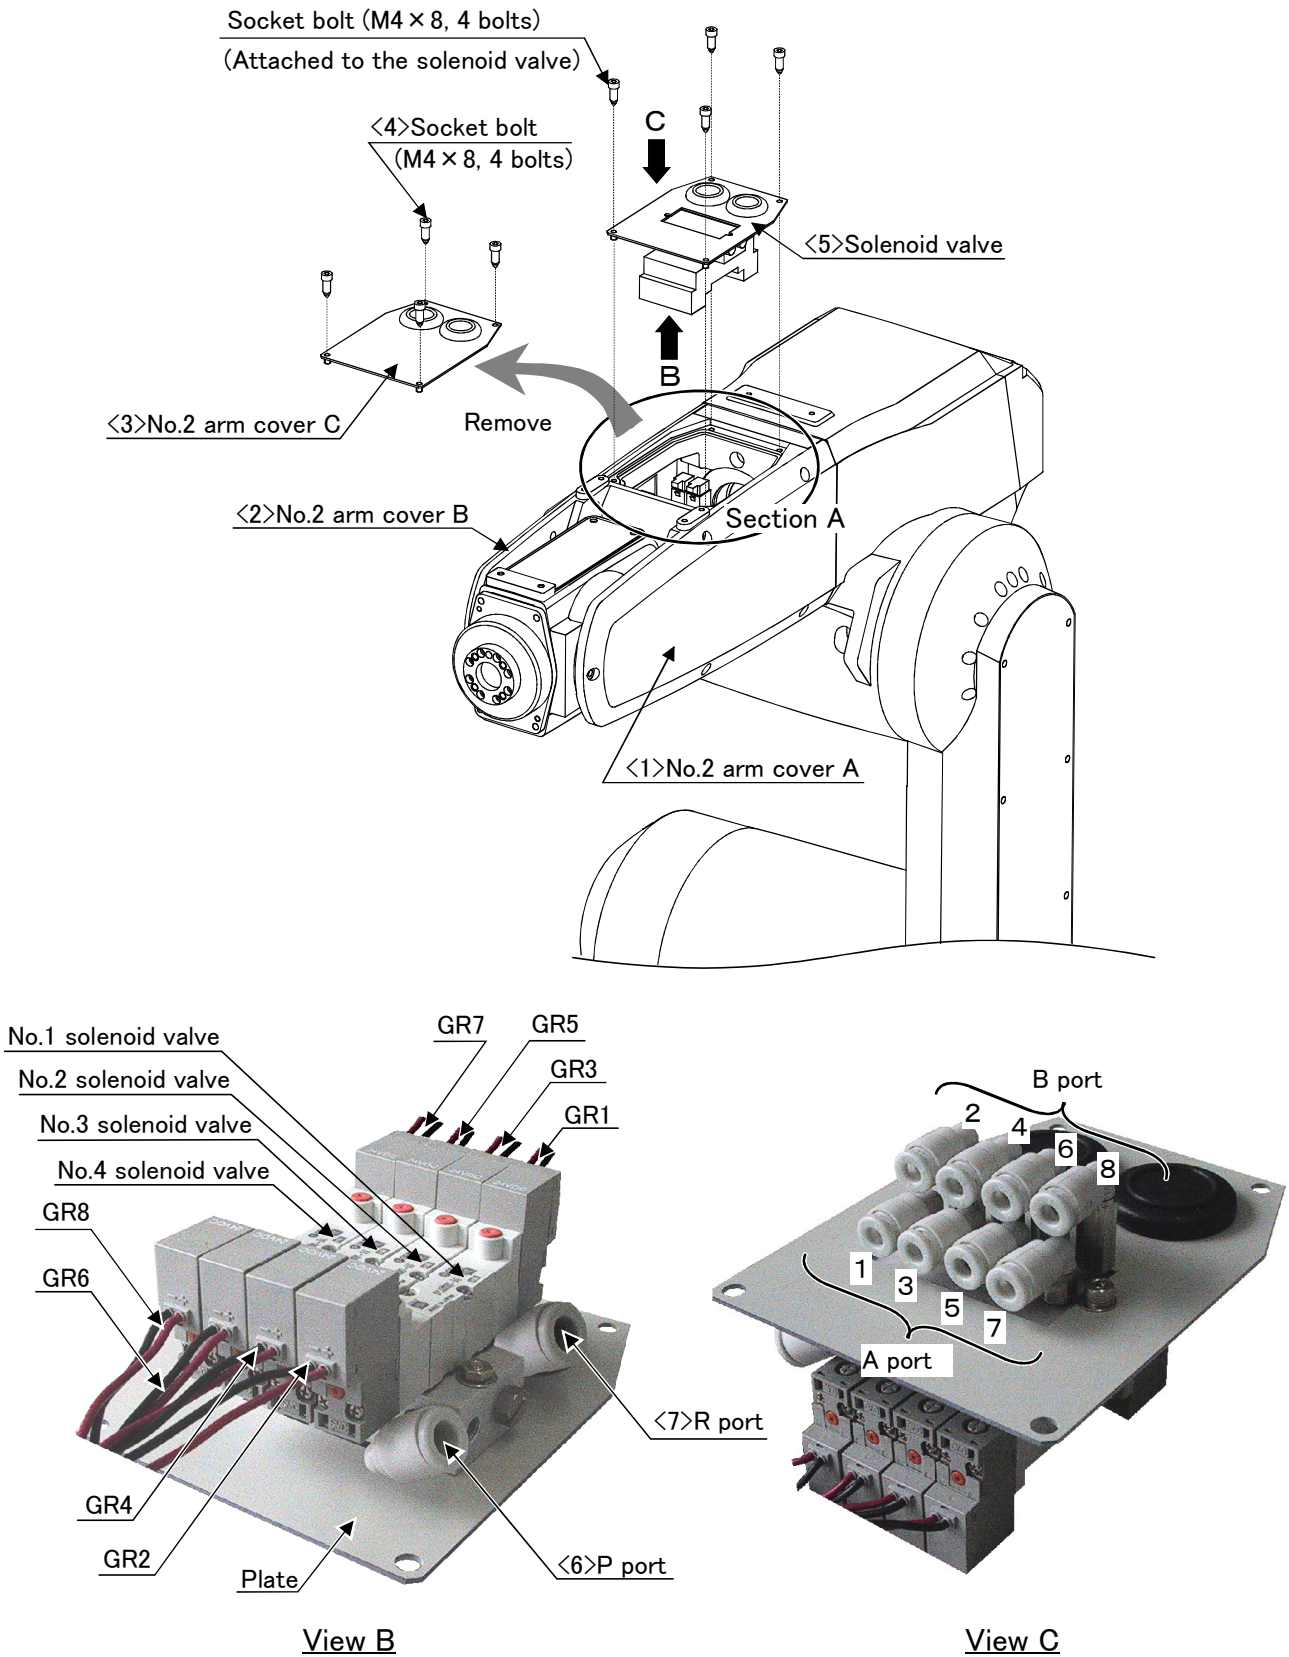
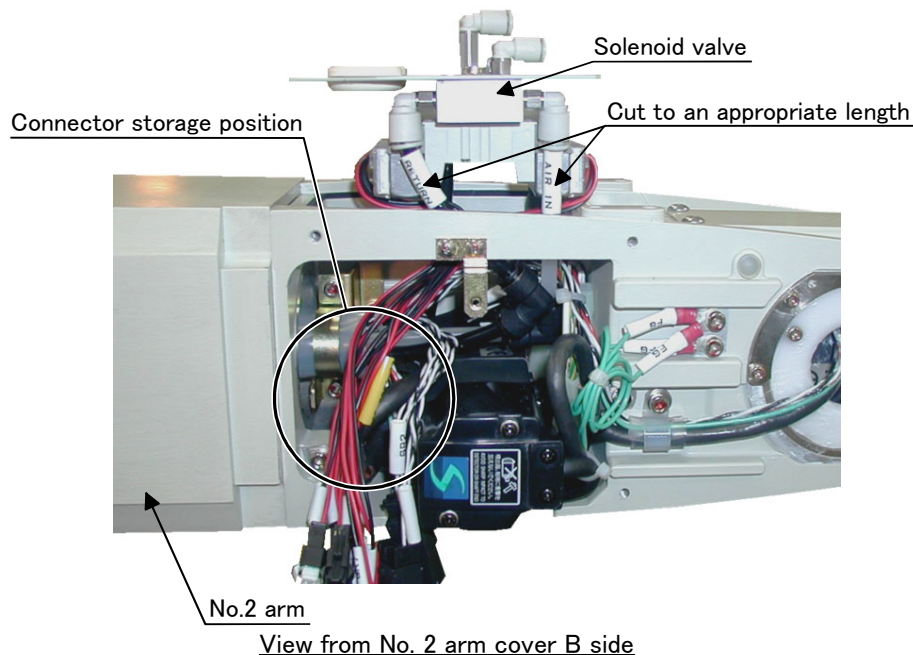
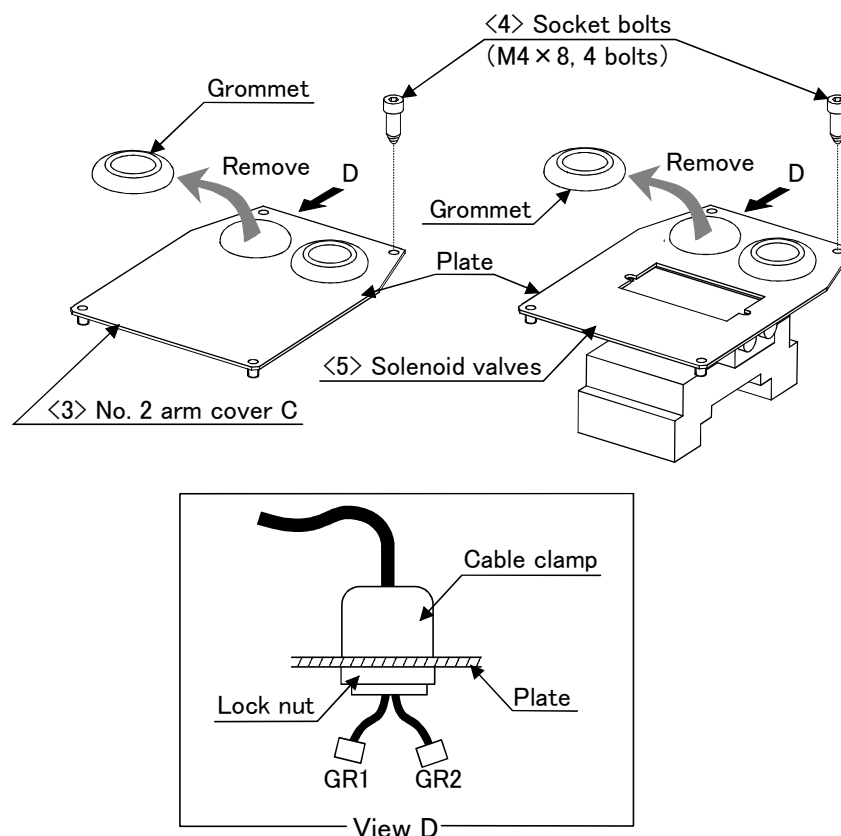

Fig.3-1 : Solenoid valve installation procedures
Fig.3-2 : Solenoid valve installation diagram details 1
Fig.3-5 : Installing the hand output cable
Fig. 3-1 and Fig. 3-2 shows the solenoid valve installation procedures and the solenoid valve connector connection procedures. The installation procedures are as follow. This work must be carried out with the controller power turned OFF.
- 3) If you are not using the spare line (ADD: stored in a coil) in section A shown in Fig. 3-1, remove it. The spare line is connected to a connector inside section A.
- 7) Connect the connectors of GR1 to GR2 stored in section A to the plugs of GR1 to GR2 coming out of the solenoid valves. Store the connectors near the location marked with  $\bigcirc$  shown in Fig. 3-2. Fig. 3-2 shows a view when stored.
The procedure for installing the hand input cable is as follows. Conduct work by referring to "Fig. 3-1 Solenoid valve installation procedures" on page 31 and "Fig. 3-4Installing the hand input cable" on page 34 below. This work must be carried out with the controller power turned OFF.
- 7) Connect the connectors of "HC1" and "HC2" stored in section A shown in Fig. 3-1 to "HC1" and "HC2" of the hand input cable.
- 8) Mount the No. 2 arm cover C <3> or the solenoid valves <5> to section A shown in Fig. 3-1. When mounting, be careful not to damage the sponge sealing material attached to the opening of section A.
The procedure for installing the hand output cable is as follows. Conduct work by referring to "Fig. 3-1 Solenoid valve installation procedures" on page 31 and "Fig. 3-5 Installing the hand output cable" on page 35 below.
- 7) Connect the connectors of "GR1" and "GR2" stored in section A shown in Fig. 3-1 to "GR1" and "GR2" of the hand output cable.